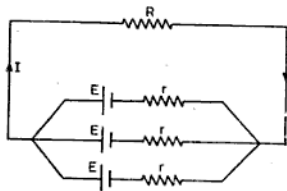

Fig. 9.6 Cells in parallel
**Parallel Combination** If it is required to have a high current output given by the cells, several cells are joined in parallel as shown in Fig. 9.6. In the parallel connection of cells, all the positive terminals of the cells are connected together at one junction. Similarly the negative terminals of the cells are joined together at the other junction.